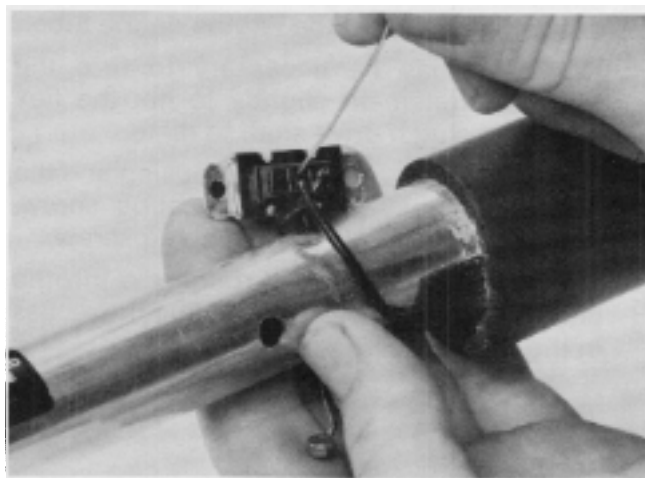

Figure 100
3. Disconnect the throttle cable and switch wires. Insert a small drill bit or small diameter wire to release the switch wires from the switch. See Figure 100.